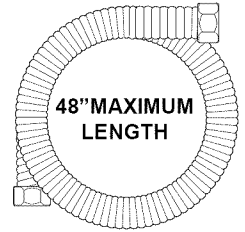

Fig. 15
- A new flexible metal appliance conduit (1/2" NPT x 3/4" or 1/2" I.D.) must be design certified by CSA International (Fig. 15). Because solid pipe restricts moving the range we recommend using a new flexible conduit (48" MAXIMUM LENGTH) for each new installation and additional reinstalls.